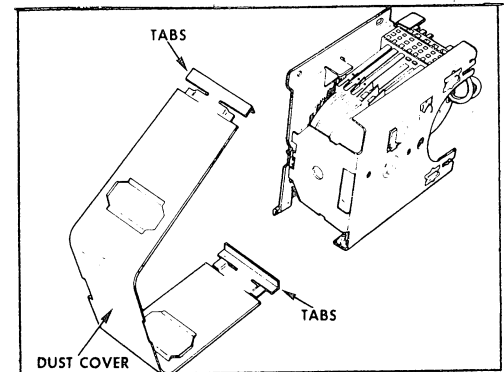
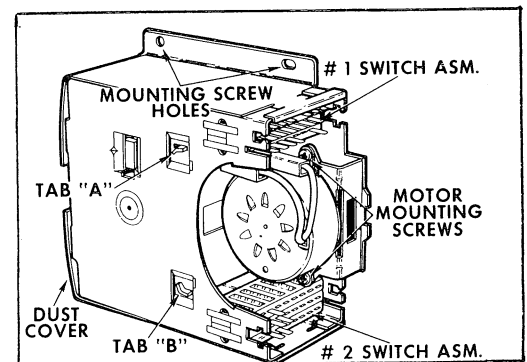
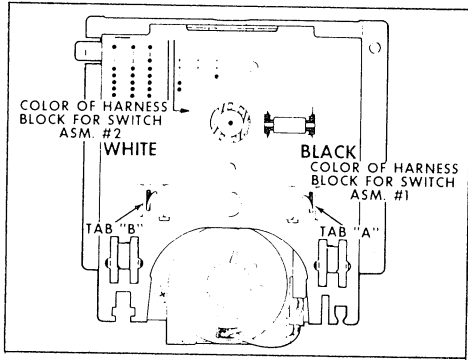
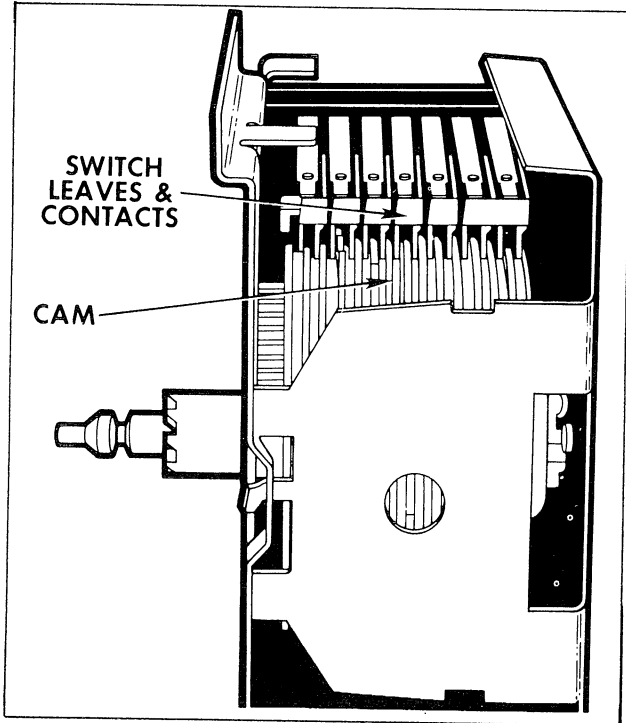

Figure 35B, Dust Cover Removed
Figure 35C, Singer Timer, Rear View
Figure 35D, Identification
Figure 35E, Correct Position of Switch Leaves
Figure 35B illustrates the timer with the dust cover removed. Most of these timers have only one switch assembly. The timer motor and the switch/s can be replaced separately in the event of failure.
1. Remove the dust cover, Figure 35B. Straighten one of the tabs "A" for #1 switch assembly, or "B" for #2 switch assembly, Figure 35C.
If the cam, gears or push-pull switch is defective, it will be necessary to replace the complete timer. Figure 35C shows the timer identification and harness block colors as related to the switch bank. The wiring table in the back splash shows the switch leaf identification relative to the schematic. Figure 35D, illustrates the correct position of the switch leaves relative
to the cam. If the leaves are not riding squarely in the cam tracks, lift the ends of the leaves and let them fall back into the correct position. Switch leave contacts should be as illustrated in Figure 35E. Replace dust cover, Figure 35B.